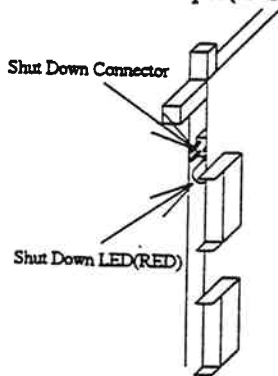

Fig. 3.3.16.2.2-1 Shut Down LED
- a. Confirm that the Shut Down LED lights.(Fig. 3.3.16.2.2-1) If the LED does not light, see Connection of Shut Down Jumper(INST03-2600).